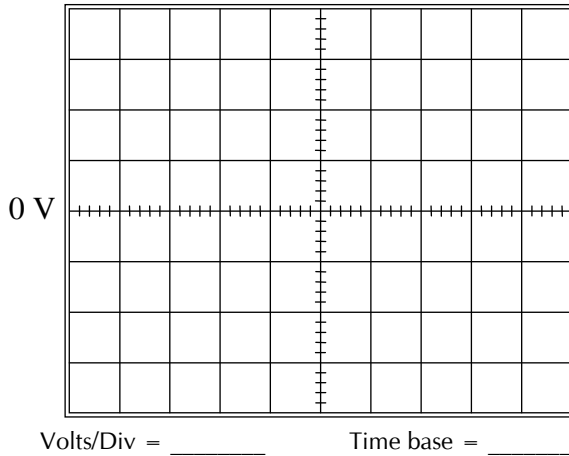

Fig. 3.5 Waveform v_o (measured)
6. Using the oscilloscope with the AC-GND-DC coupling switch in the DC position obtain the voltage v_0 and sketch the waveform on Fig. 3.5. Before viewing v_0 be sure to set the $v_0 = 0$ V line using the GND position of the coupling switch. Use the same sensitivities as in Step 4.